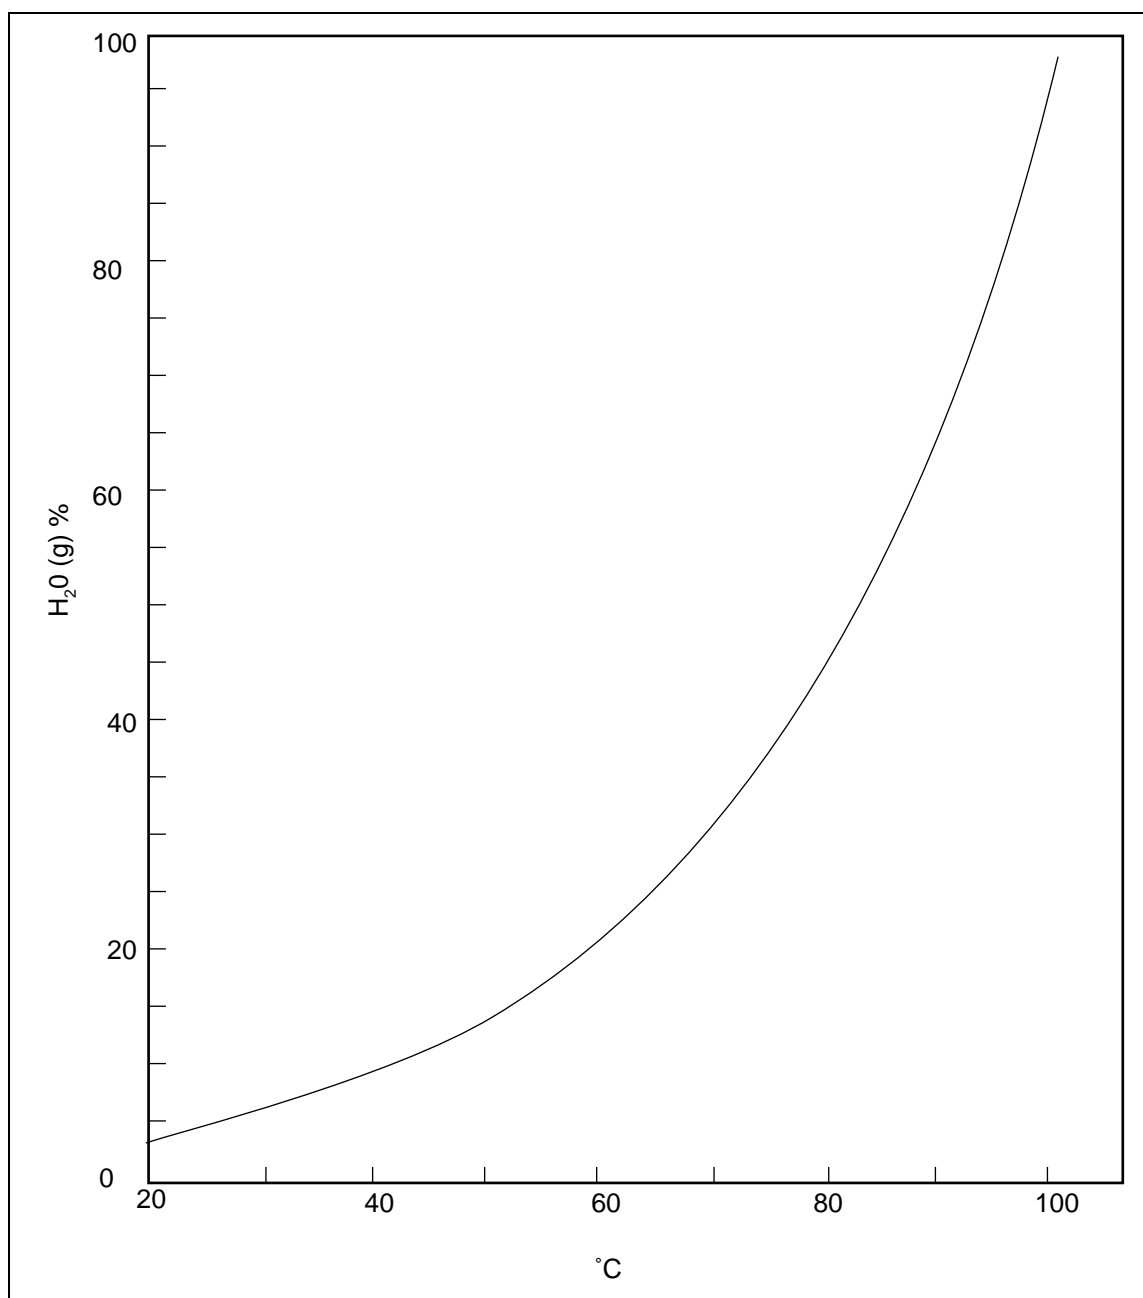

Figure 5-1 Water vapour curve
- 3 Consult the graph shown in Figure 5-1, to ascertain the water temperature required in the Water Vapour generator to create the water vapour level typically encountered in the duct. Set this on the Water Vapour generator temperature controller and wait until the actual temperature has risen to this set temperature.